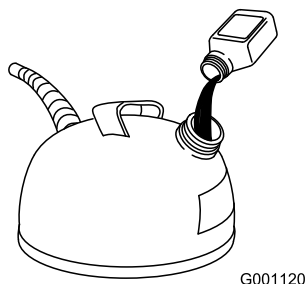

Figure 9
2. Add 2-cycle oil to the gasoline (Figure 9) according to the following chart: